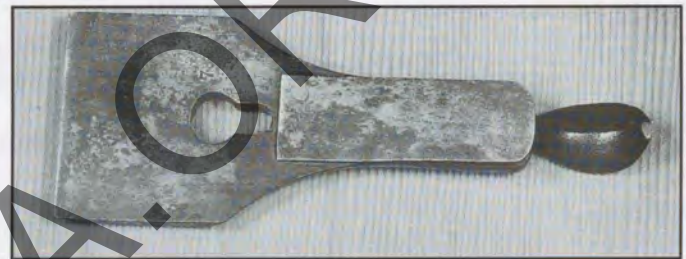

Fig. 5 Type 2. Back of lever cap with flat spring.
**Throat Adjustment:** Throat adjustment is similar to Type 1 except the sliding bed is opened and closed by a single captive screw. The screw has a groove under its head that engages a slot in the front of the plane body. The clamping screw in the top of the plane body is steel rather than brass. Two little shim screws inside the sliding bed adjust the side-to-side fit of the sliding bed. (Fig.5)
**Lever Cap:** The lever cap is like Type 1 except it has a flat spring under the clamping lever. The spring is riveted to the lever cap with two flush rivets. The lever cap measures 4 3/8 inches from the front edge to the top of the spring and 1 9/16 inches from the front edge to the shoulder. (Fig.5)